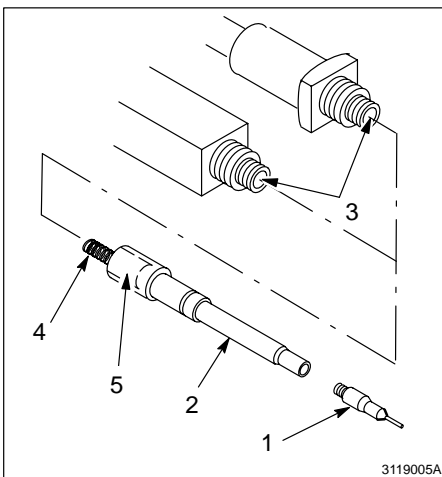

Fig. 5
2. See Figure 5. Unscrew the contact tip (1) from the probe (2).
3. Inject 0.5–0.75 cc of dielectric grease into the multiplier or cable fitting well (3), using the 3-cc applicator supplied with the kit.
4. Fill the new resistor spring (4) and the threaded end of the resistor probe (5) with 0.5–0.75 cc of dielectric grease.